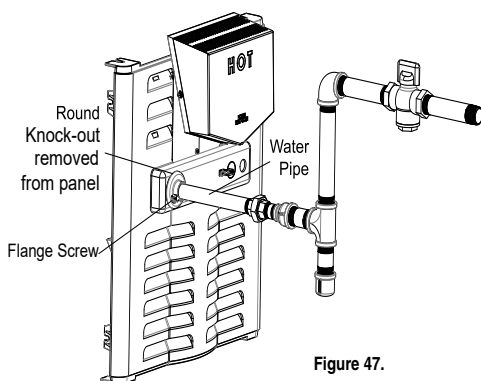

Figure 47.
1. Place the water pipe escutcheon over the water pipe, **see Figure 47.**